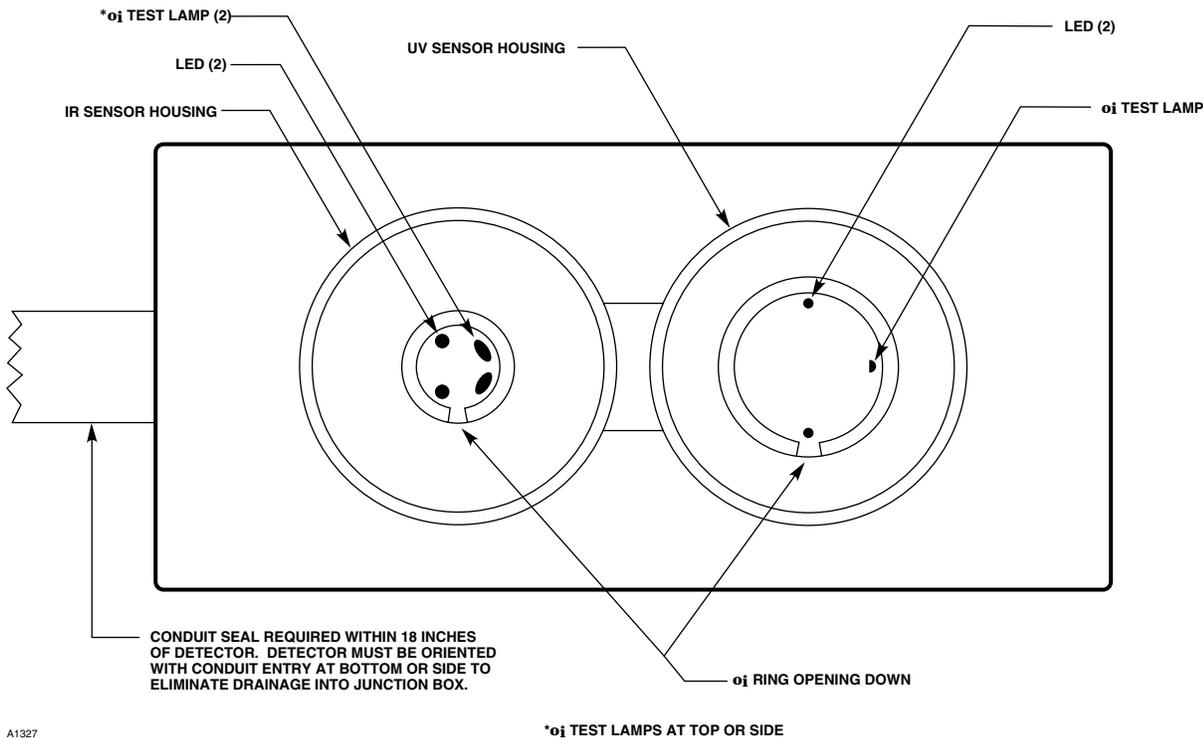
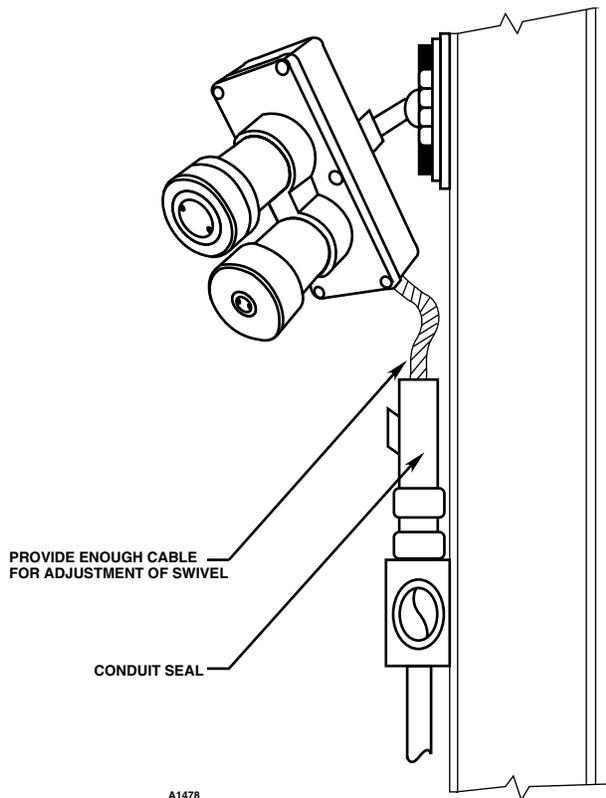

Figure 10—Front View of the C7052J Detector
Figure 11—Vertical Mountign Detector
faults. Whenever possible, slope the conduit run downward from the detector. Do not use conduit runs that enter the device from the top. See Figure 10 for identification of the detector parts of interest when mounting, and Figure 11 for an example of vertical detector mounting.
The two **oi** lamps on the DE5500 IR sensor should be at the top or side of the detector (when viewed from the front) and the opening on the **oi** ring should be at the bottom. See Figure 10. This will ensure proper operation of the **oi** system and also minimize the accumulation of moisture and contaminants between the **oi** ring and the viewing window. (The **oi** lamps on the IR sensor are identified as oblong in shape and clear in color.)
16. The opening of the **oi** rings should be pointed down to minimize the accumulation of moisture or contaminants behind the ring (see Figure 10). Verify that the **oi** test lamp is at the top or side of each sensor. Note that Figure 10 shows the DE5500 IR module with the test lamps located together on one side of the edge. The DE3895 IR module has test lamps located directly opposite one another. In both cases, ensure that no test lamp is positioned at the bottom when the detector is installed.